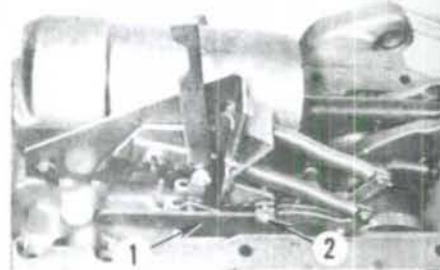

Fig. 227—View of pressure control lever (1) and pivot pin (2) used on models equipped with pressure control.
On Models with pressure control, be sure pressure control lever (1—Fig. 227) is correctly installed on pivot pin (2) and rests against quadrant cam.